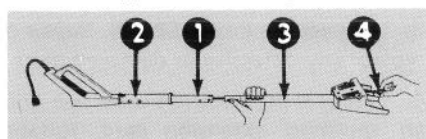

Figure 3
4. Lay handle assembly onto flat surface. Slide center handle grip off lower handle and onto upper handle (Fig. 3).
5. Align upper and lower handles. Insert handle connector with one hand and slide lower handle into mounting position in upper handle with other hand (Fig. 3).